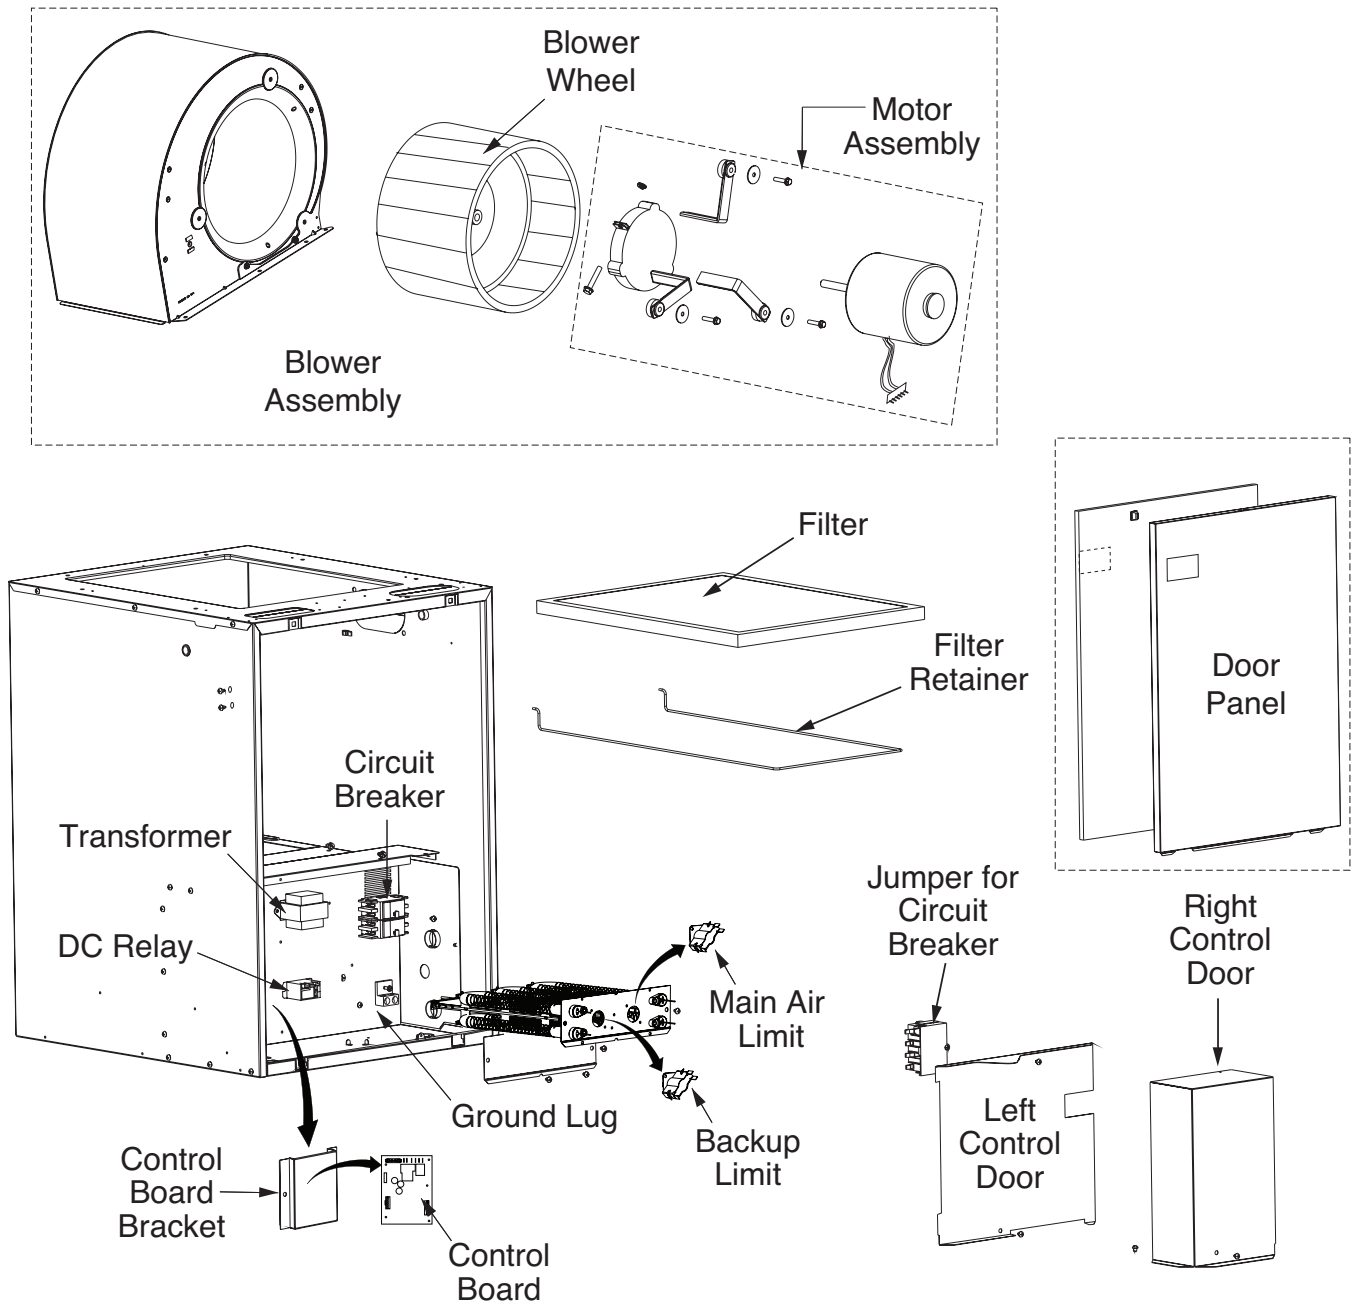

Figure 18. E7 Appliance Components
It is recommended that the line voltage (230 VAC) to the Appliance be supplied from a dedicated branch circuit containing the correct fuse or circuit breaker for the Appliance. For minimum circuit ampacity and maximum over-current protection, see Table 7 and Table 9. See unit wiring diagrams (Figure 24 \(page 21\), Figure 25 \(page 22\), Figure 26 \(page 23\), Figure 27 \(page 24\) & Figure 28 \(page 25\)) for wiring details. Electrical components are shown in Figure 18 \(page 13\). Supply circuit requirements are listed below:
7. Connect service ground wire(s) to grounding lug(s) provided. See Figure 18 \(page 13\). One ground is required for each supply circuit used.